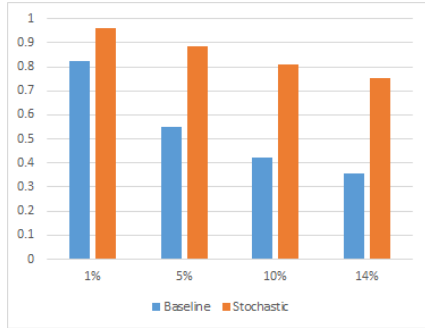

Figure 6. Low-Pass SSIM Comparison
- b. What is the best style to present our SSIM/PSNR results? (figure 6,7,8,9)